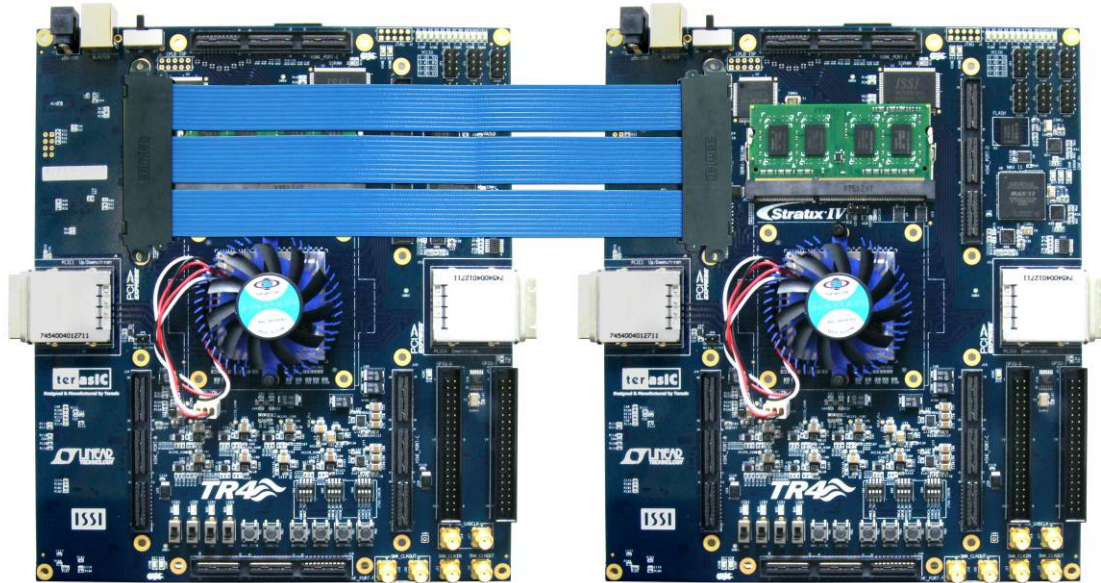

Figure 3-2 HSMC ports A connected via HSMC cable
1. Determine the HSMC ports you would like to connect, and connect both to the ends of the HSMC cable. In figure 3-2, HSMC ports A of both TR4s have been connected to each other via HSMC cable.